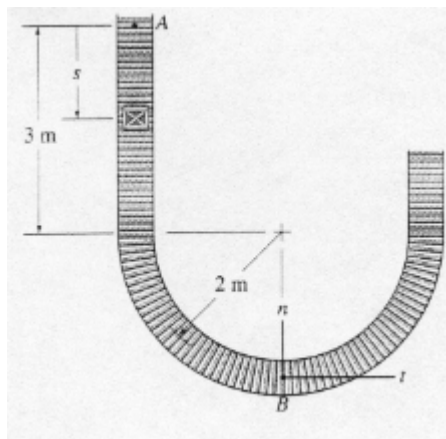

Figure 2 Horizontal conveyor
2. A box starts from rest at point A shown Figure 2 and travels along the horizontal conveyor. During the motion, the increase in speed is $a_t = (0.2t) \text{ m/s}^2$, where t is in seconds. Determine the magnitude of its acceleration when it arrives at point B. (20%)